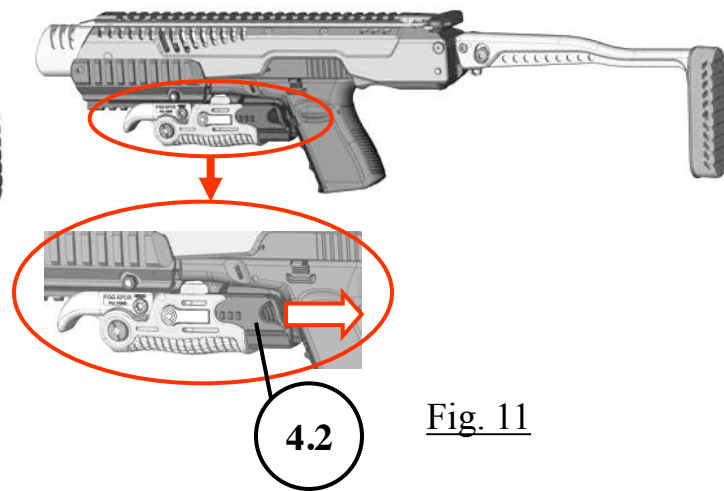

Fig. 11
Step 2. Pull out the Triggerguard Foregrip Extension Slide (4.2) until the Trigger is fully covered (Fig 11).